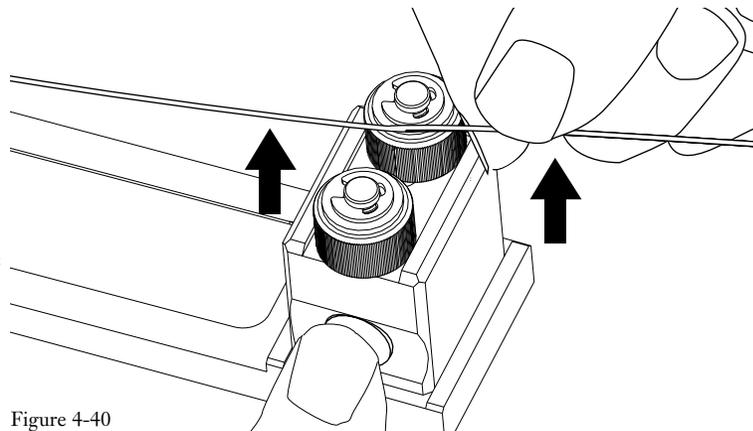

Figure 4-40
**4.8-7** Remove the fiber from the index rollers by pressing the release button and lifting it out (Figure 4-40).